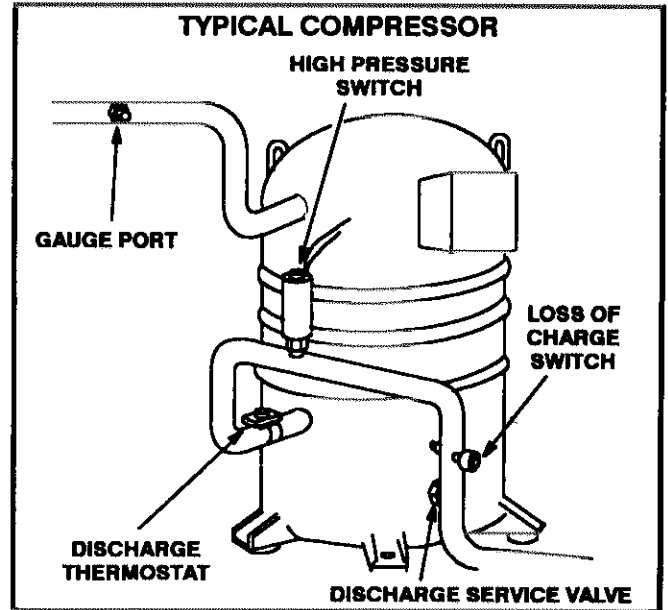

FIGURE 10
- 1— Attach gauge manifold. Refer to figure 10 for service valve identification.